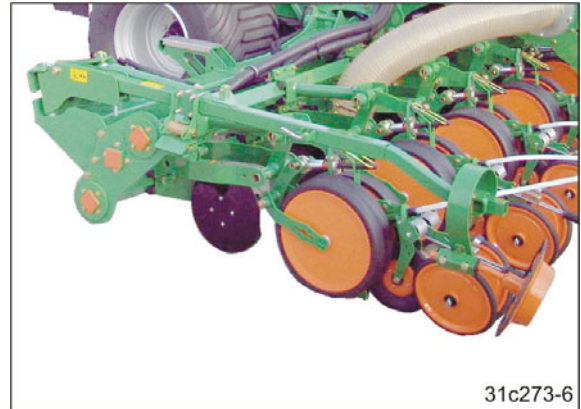

Fig. 216
6. Keep actuating the *yellow* tractor control unit until both track markers (Fig. 216) are folded (parking position)